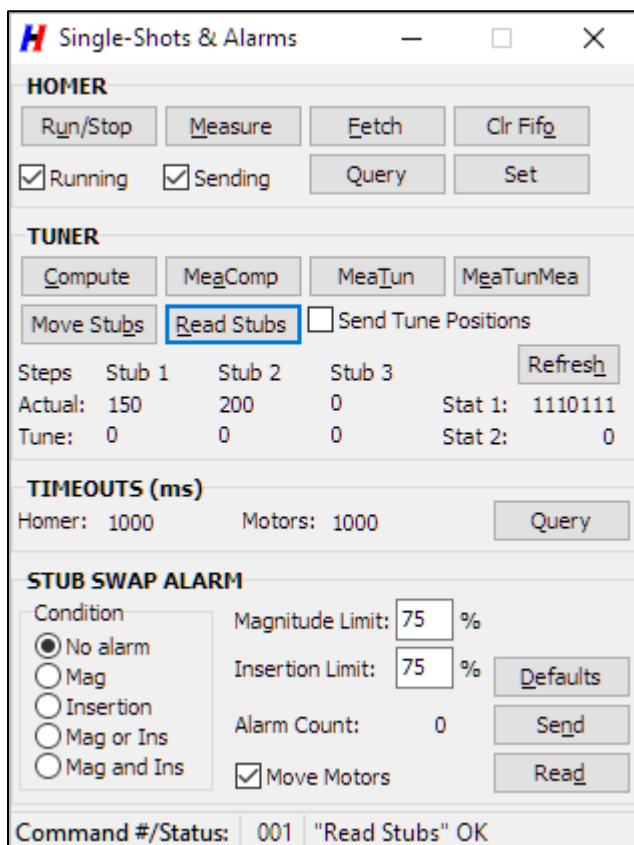

Figure 47. Single-Shot & Alarm Commands window.
**Single-Shot & Alarm Commands** window (Figure 47) can be opened by clicking **View|Single-Shots & Alarm** menu item. The window contains two types of commands: